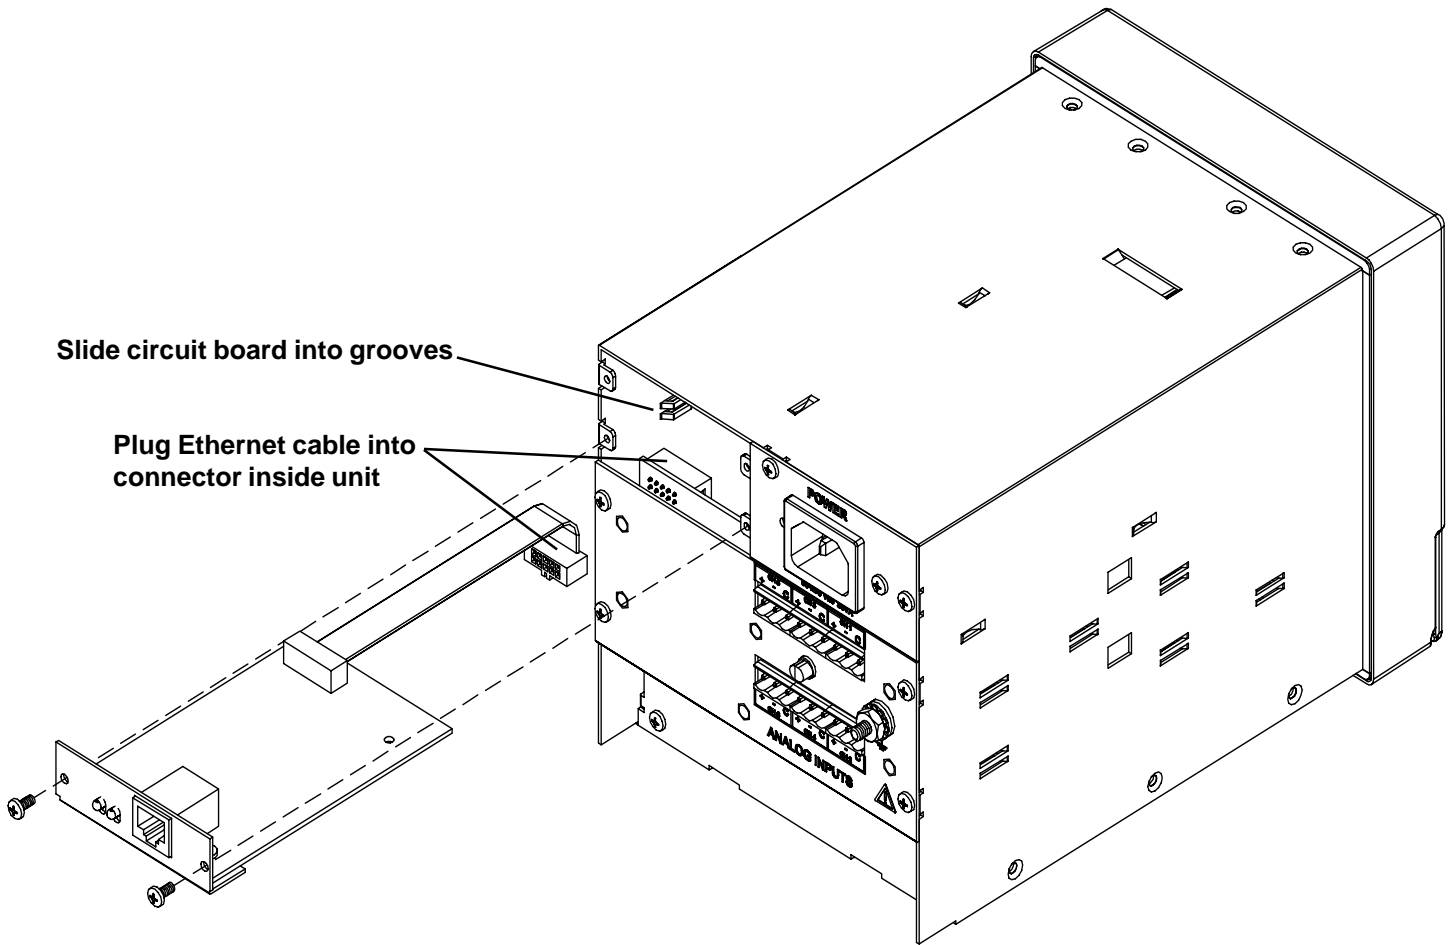

Figure 2 Ethernet Board Installation
2. Reaching into the hole where the blanking panels were removed, connect the cable from the Ethernet board to the connector on the back side of the backplane board (see Figure 2).